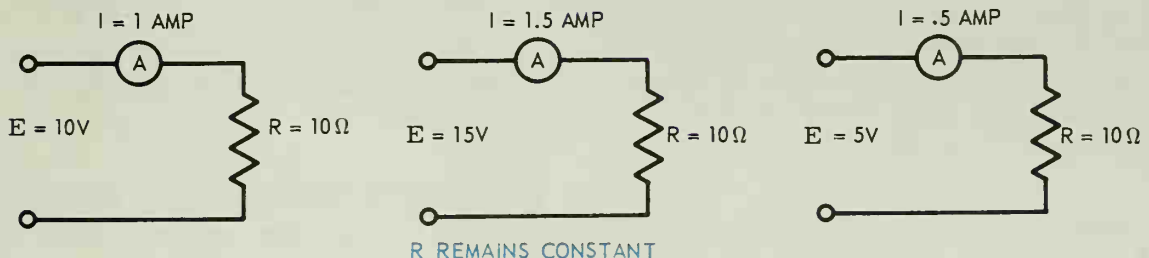

Fig. 4-1. Current in a circuit is directly proportional to applied voltage.
1. The current in any circuit is directly PROPORTIONAL to the applied voltage. That is: if the voltage is increased, the current will increase. If the voltage is decreased, the current will decrease. See the simple circuit shown in Fig. 4-1. Note the symbol $\textcircled{A}$ used for AMMETER in this illustration.